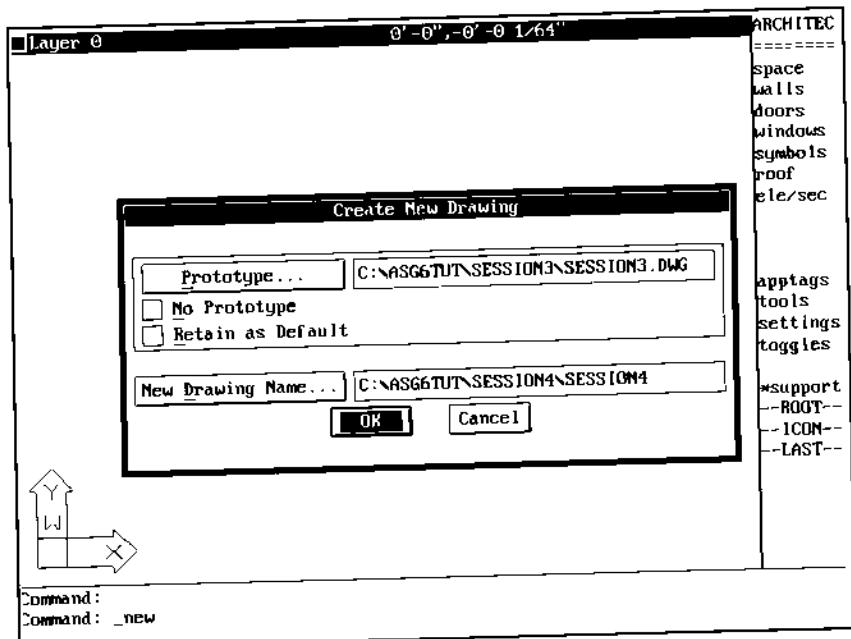

Figure 1.
2. An isometric view of the drawing is shown in Figure 1.
3. Name the new drawing SESSION4 as shown in Figure 1.